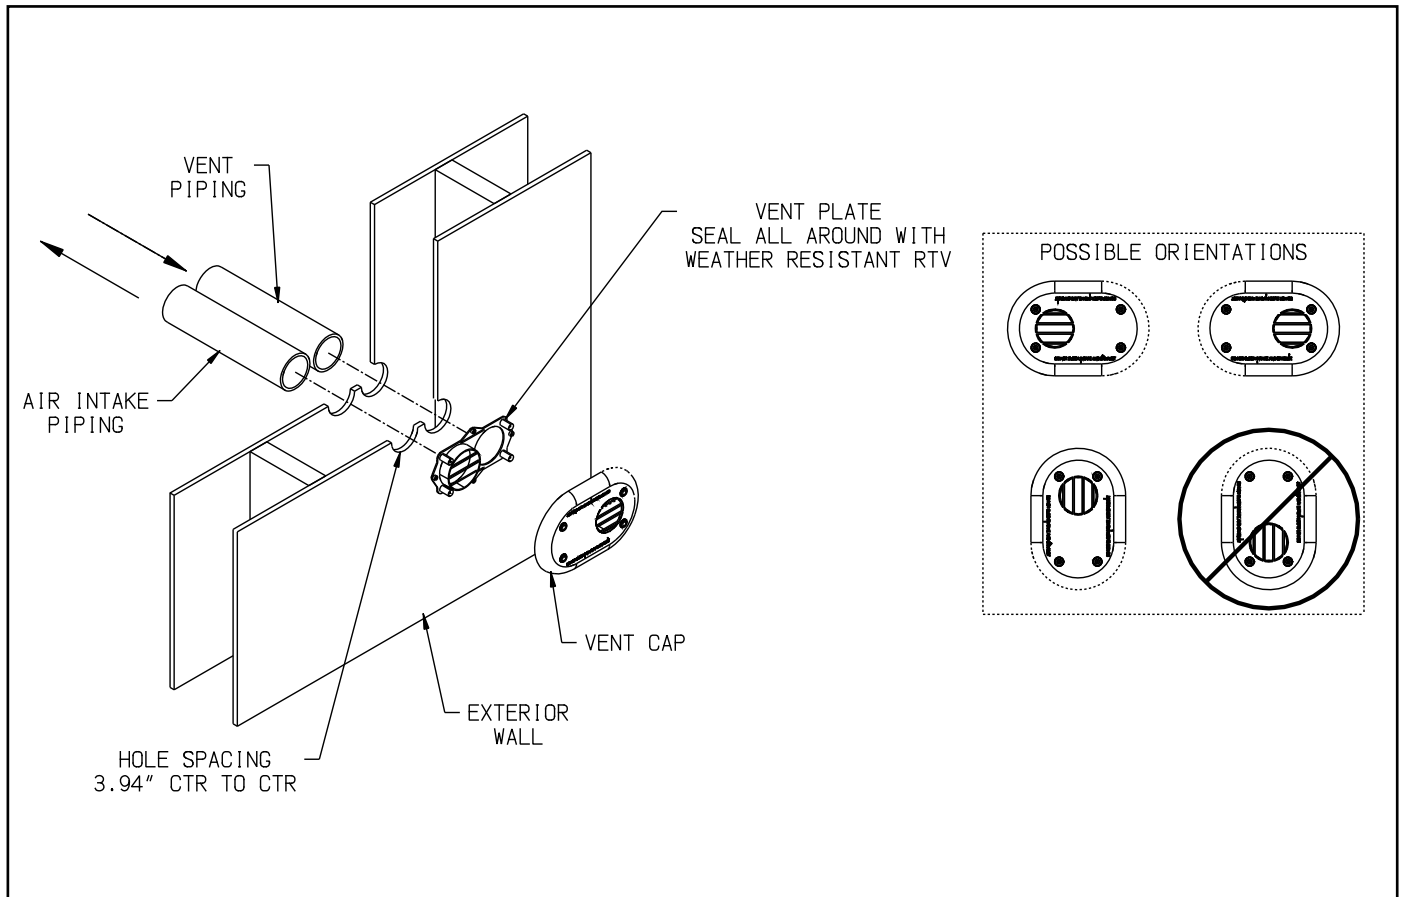

Figure 7.31: Installation of DiversiTech Low Profile Terminal Through Sidewall
7. Installation of DiversiTech Low Profile Terminal (Terminal Option C) – See Figure 7.31: